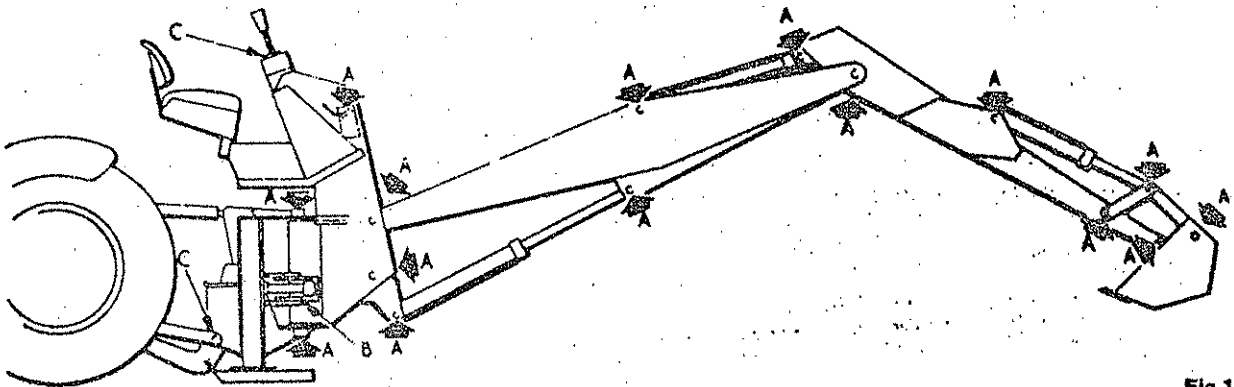

Fig.11
(h) Lubricate the machine thoroughly (see Fig. 11 and instructions on Page 6)
8. Lubrication (see Fig. 11)